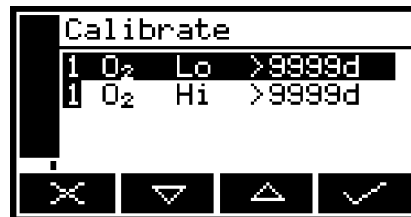

Figure 20 - The Calibrate screen
3. Press the  soft key on the Measurement screen (or select the "Calibrate" option from the Menu screen) to display the Calibrate screen (see Figure 20).
Note that the "9999d" field of the screen shown in Figure 20 will identify the period of time that has elapsed since the last calibration, and can be in any of the following forms: